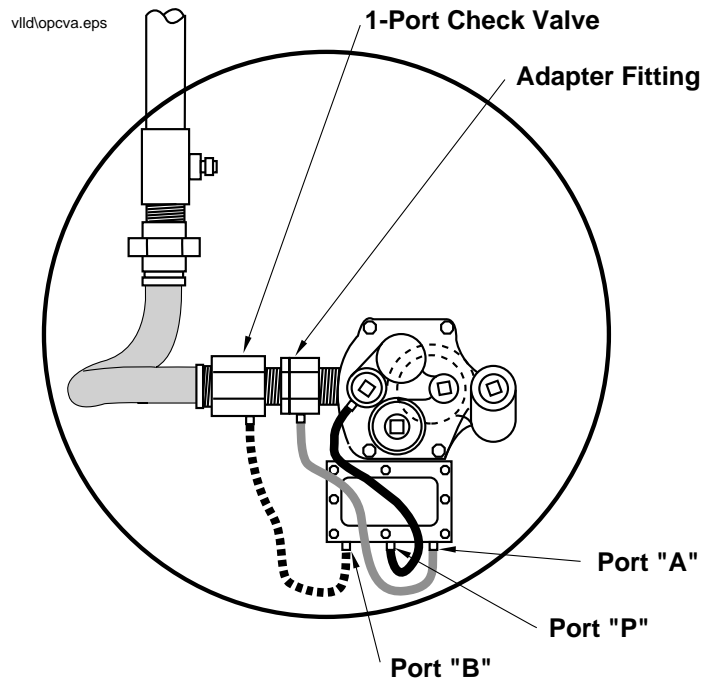

Figure 5. One-Port Check Valve and Adapter Fitting
- Check valve and adapter fitting with two tubing connections to the controller and one to the STP (used as replacement for the 2-port check valve) [Figure 5 on page 9]